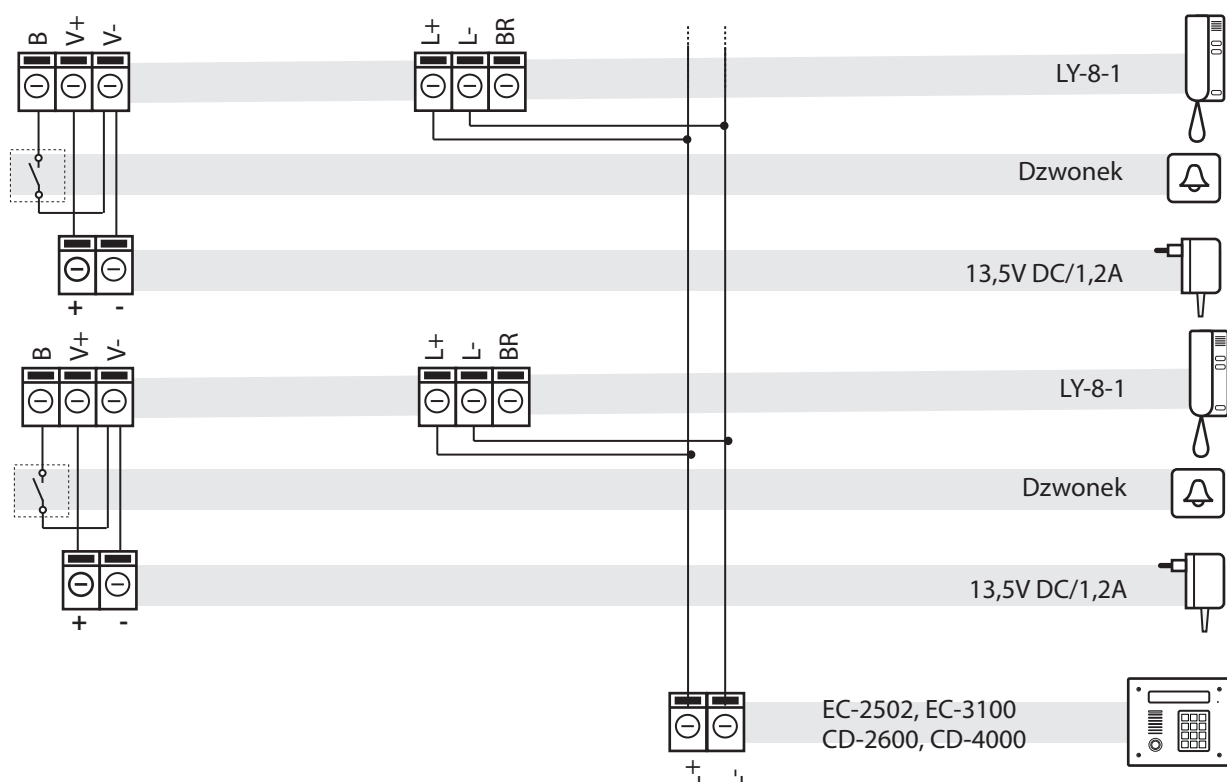

Fig. 5. Connecting the LY-8-1 door entry handset. Powering door entry handsets from local power supplies.
- connect the bell button to terminals B and V-, and then connect the door entry handset power cables according to the diagram in Fig. 5 or 6,